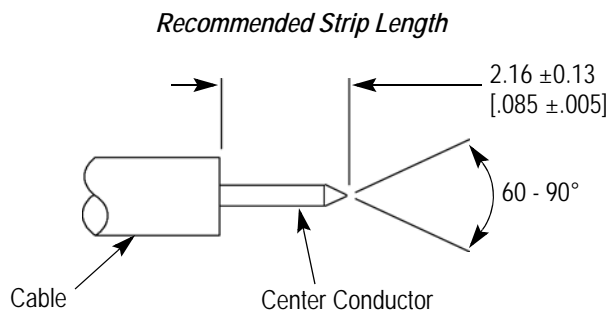

Figure 2
- Strip the cable according to the dimensions shown in Figure 2. Do not nick the center conductor.